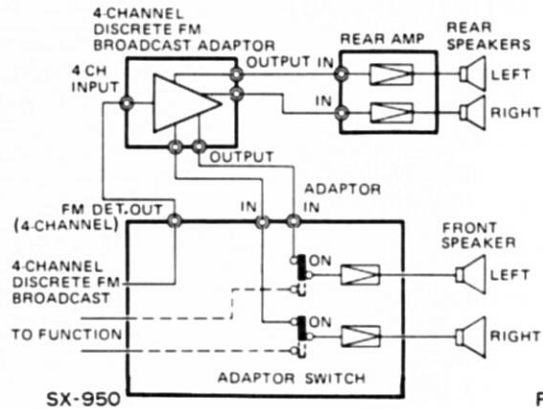

Fig. 21
1. The adaptor is connected to the FM DET. OUT jack of the receiver as shown in Fig. 21.